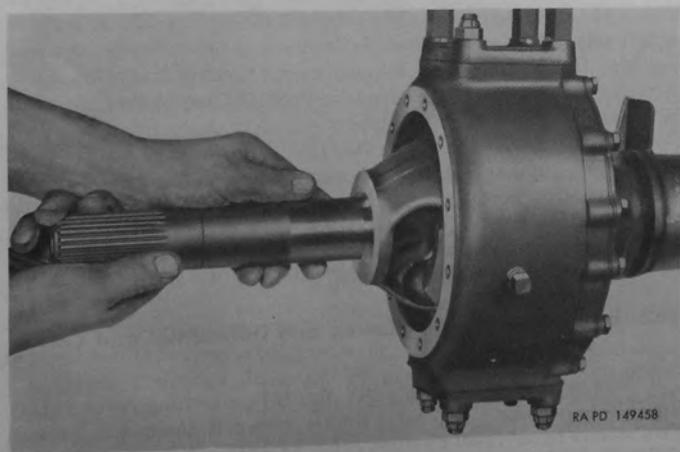

Figure 111. Removing or installing universal joint assembly.
b. Remove Axle Shaft and Universal Joint Assembly.—Grasp outer shaft (fig. 111) and pull shaft and universal joint assembly straight out of axle housing.